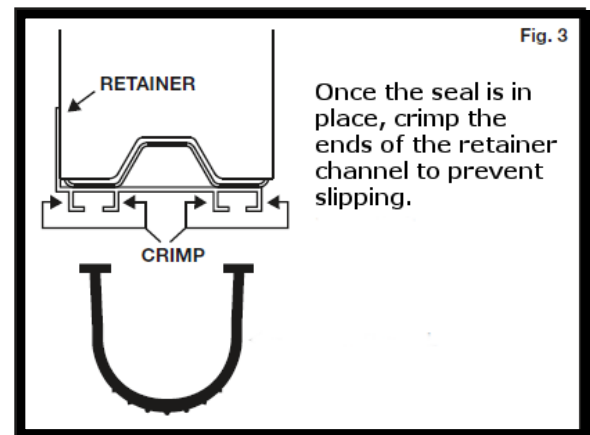

Fig. 3
2. Slide old seal out one end. Slide in full length of new seal flush with one end. If sticking occurs, dish soap or silicone spray can be used as a lubricant. Go to other end, push about one inch extra into retainer, and crimp retainer (Figure 3). This procedure is to hold astragal in place due to shrinking. Trim end flush with door edge.